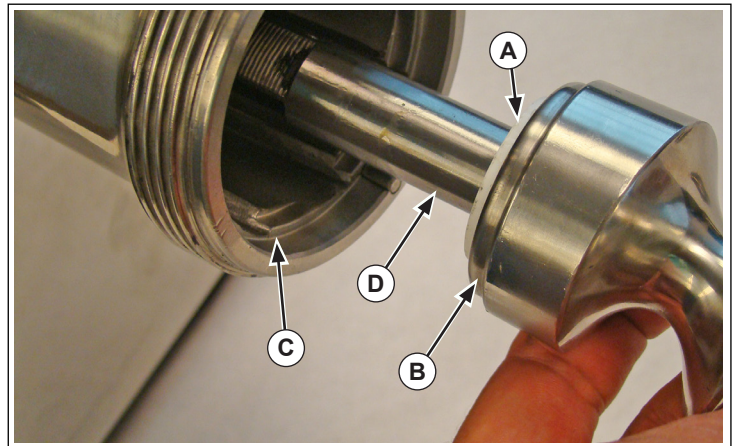

Figure 3. Shaft Washer, Worm Gear Assembly and Grinder Chamber
- Slide the shaft washer (A) onto the worm gear shaft (B).
- Slide the shaft washer (A) so that it is seated against the worm gear assembly (B) as shown. See Figure 3.
5. Remove the worm gear assembly (B) from the grinder chamber (C). See Figure 3.